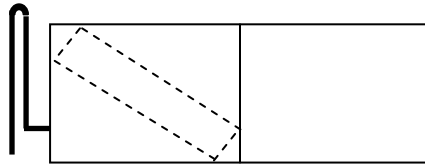

Fig 1. Evaporator unit with inverted vapor loop
- For a system installation where the evaporator is above the condenser, an inverted vapor line trap should be installed on the suction line just before the inlet to the evaporator (see Fig 1). The top of the inverted loop must be slightly above the top of the evaporator coil and can be created simply by brazing two 90° long radius elbows together, if a bending tool is unavailable. Properly support and secure the inverted loop to the nearest point on the indoor unit or adjacent structure.